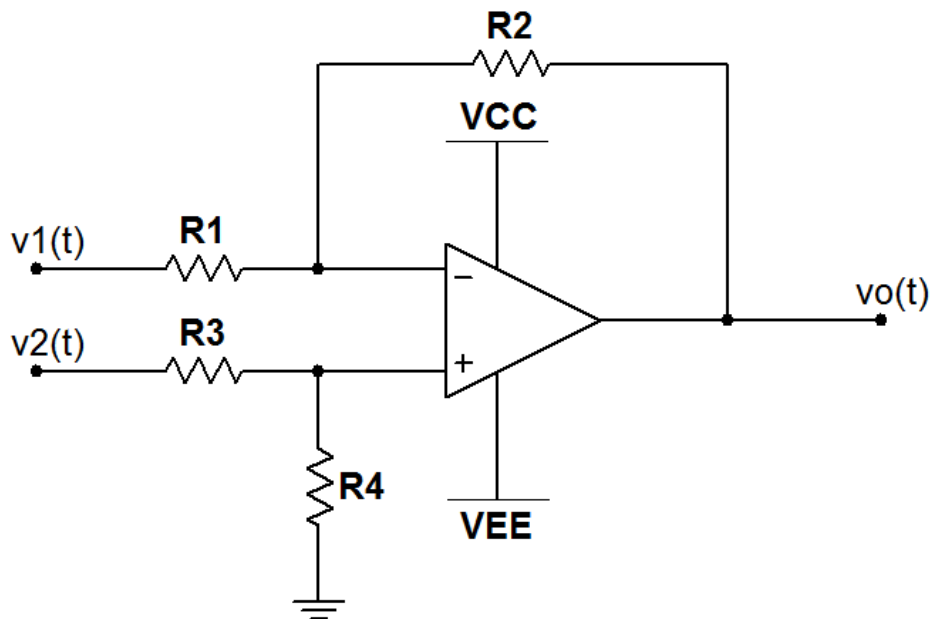
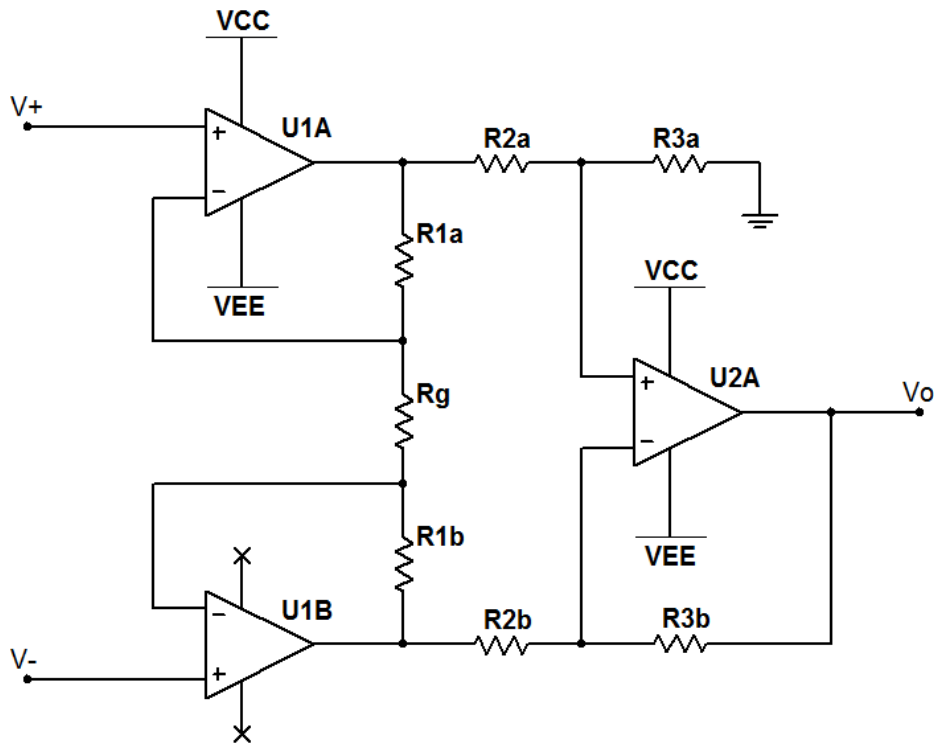

Figure 2.5: Circuit for Problem 2.5
Figure 2.6: Circuit for Problem 2.6 on the preceding page
Figure 2.5 shows a *difference amplifier*, a circuit that amplifies the difference between its two input signals.
Enter the circuit of Figure 2.5 on the preceding page using the TL072CP op amp model. Place the V_{CC} and V_{EE} power supplies and set their values to +15 V and -15 V.
1. Build the circuit of Figure 2.5 on the previous page. Use the NI ELVISmx Arbitrary Waveform Generator (ARB) to create the input signals $v_1(t)$ and $v_2(t)$ described in the problem statement. Use AOO for $v_1(t)$ and
Figure 2.6 on the next page shows an *instrumentation amplifier*, a circuit similar in purpose to the difference amplifier of Figure 2.5 on page 67, but with improved performance in terms of input resistance, differential gain, and common-mode rejection ratio.
Enter the circuit of Figure 2.6 using the TL072CP op amp model. Place the VCC and VEE power supplies and set their values to +15 V and -15 V.
Build the circuit of Figure 2.6 on the previous page. Use the ELVISmx Oscilloscope to monitor the value of v_o using the RMS indicator under the main display. Set the “Volts/Div” scale to its most sensitive value (10 mV) and ensure that Channel 1 is disabled.